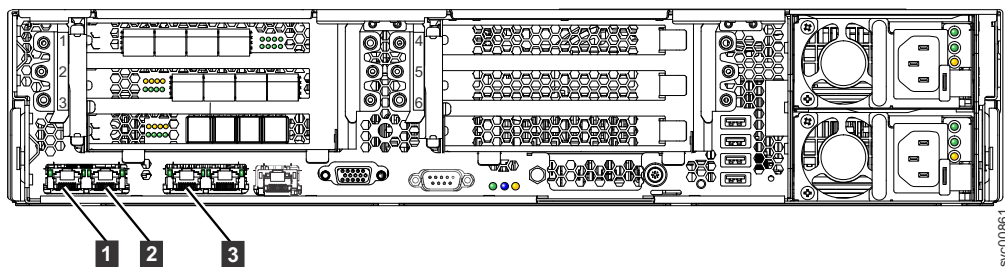

Figure 43. Ethernet ports on the rear of the SAN Volume Controller 2145-DH8
- Plug the Ethernet cable from that node into the Ethernet port 2 from a different node, as shown in Figure 43.